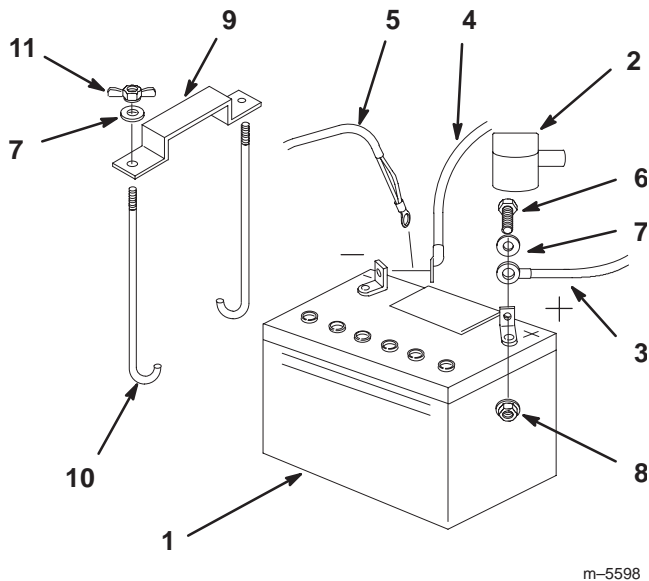

Figure 55
1. Position battery in tray with terminal posts toward the engine (Fig. 55).
4. Secure cables with 2 bolts (1/4 x 3/4 in.), 2 washers (1/4 in.), and 2 locknuts (1/4 in.) (Fig. 55).
- Secure battery with J-bolts, hold down clamp and 2 washers (1/4 in.), and 2 wing nuts (1/4 in.) (Fig. 55).
3. First disconnect the negative battery cable and ground wire from the negative (-) battery terminal (Fig. 55).
4. Slide the red terminal boot off the positive (red) battery terminal. Then remove positive (red) battery cable (Fig. 55).
5. Remove both wing nuts (1/4 in.) securing the battery clamp (Fig. 55).